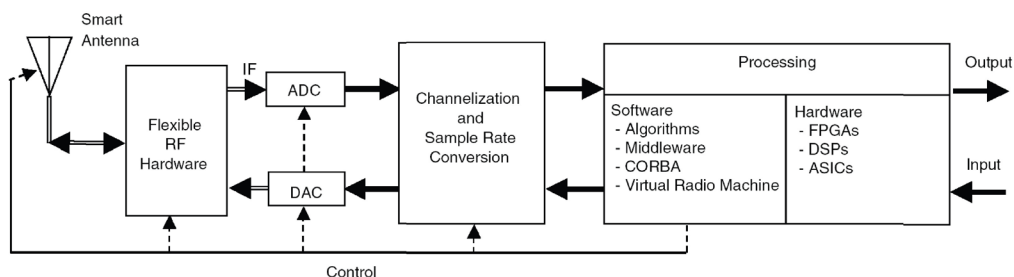

Figure 1 A model of a practical software radio
A model of a practical software radio is shown in Figure 1. The receiver begins with a smart antenna that provides a gain versus direction characteristic to minimize interference, multipath, and noise. The smart antenna provides similar benefits for the transmitter. Most practical software radios digitize the signal as early as possible in the receiver chain while keeping the signal in the digital domain and converting to the analog domain as late as possible for the transmitter using a DAC. Often the received signal is digitized in the intermediate frequency (IF) band. Conventional radio architectures employ a super heterodyne receiver, in which the RF signal is picked up by the antenna along with other spurious/unwanted signals, filtered, amplified with a low noise amplifier (LNA), and mixed with a local oscillator (LO) to an IF. Depending on the application, the number of stages of this operation may vary. Finally, the IF is then mixed exactly to baseband.